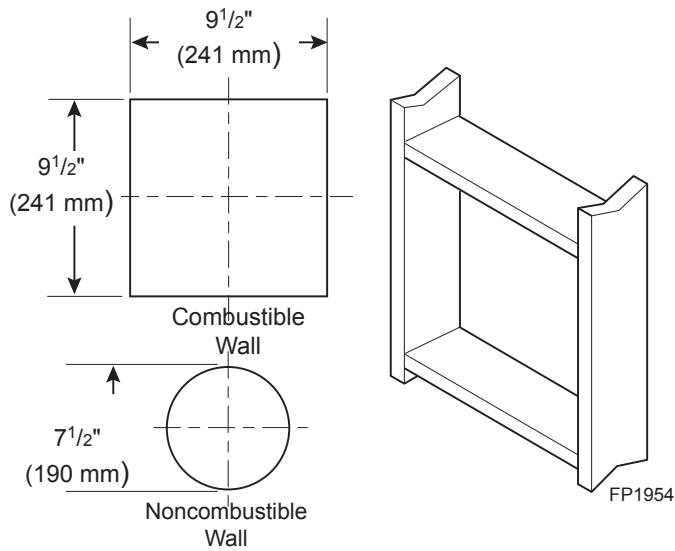

Figure 26 - Exterior Wall Framing Dimensions for 4" x 6^{5/8}" or 4" x 7"
- Combustible Exterior Walls:** Cut a 9½"H x 9½"W square hole through the exterior wall frame. *Figure 26*
2. The center of the hole should line up with the center line of the horizontal rigid vent pipe end. Allow ¼" minimum rise per foot. *Figure 26*